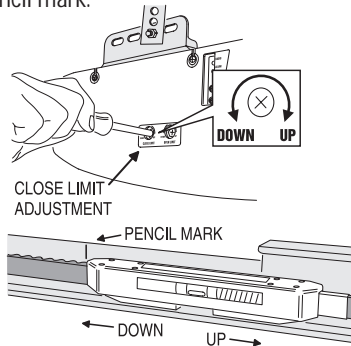

Figure 3B Adjusting the close limit
- E Adjust the close limit (**Figure 3B**).